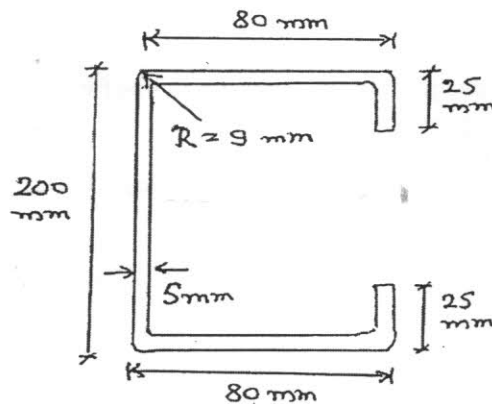

Fig. 9(b)
b) Compute the compressive load carrying capacity of the section shown in Fig. 9(b). Take $f_y = 240$ MPa.